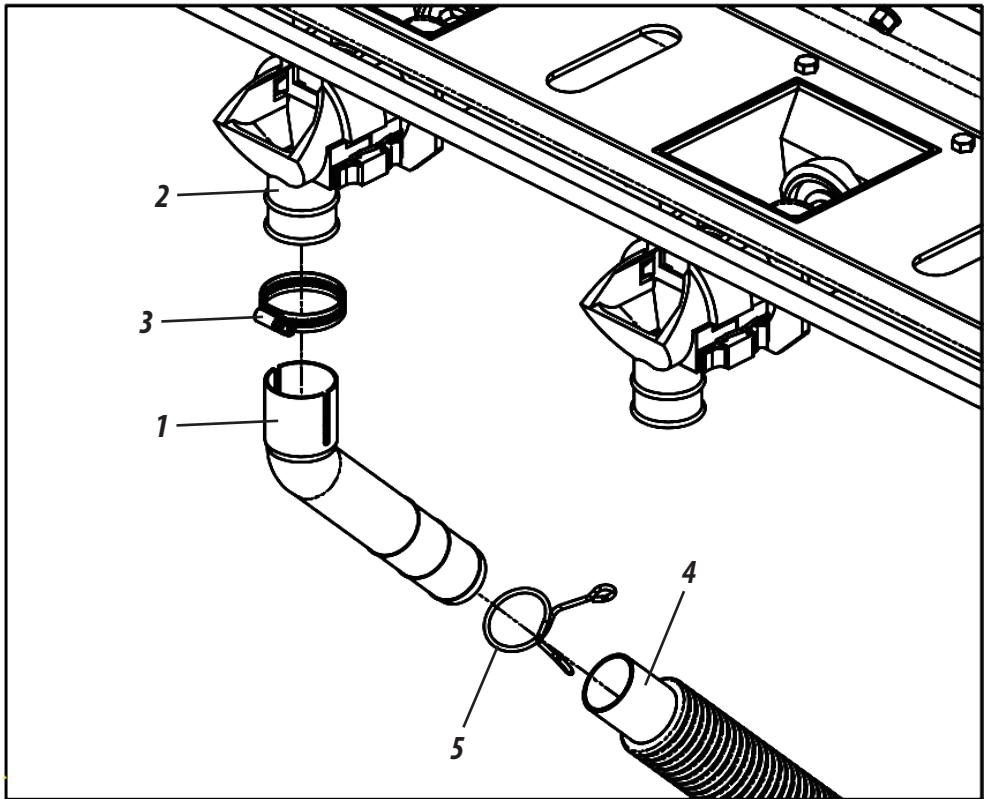

Figure 38
## FERTILIZER CONDUCTOR FERTISYSTEM SYSTEM (FIGURES 38/39)
Then place the hoses (4) on the spouts in degree (1) through the clips (5), **as shown in figure 38.**